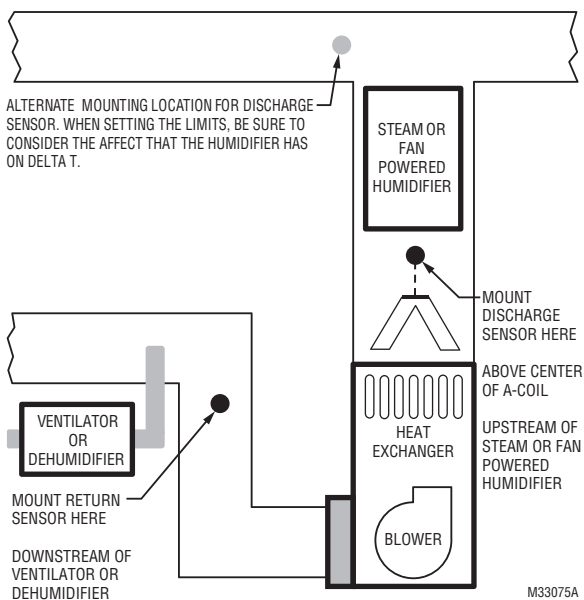

Fig. 11.
2. When possible, mount the Discharge Air Temperature Sensor upstream of a Steam Humidifier, a Fan Powered Humidifier or a Dehumidifier that is ducted to the supply. See Fig. 11–12.
See Fig. 11. When setting the Delta T Limits (see “Set Delta T Limits” on page 87), be sure to consider the affect that the humidifier has on Delta T.